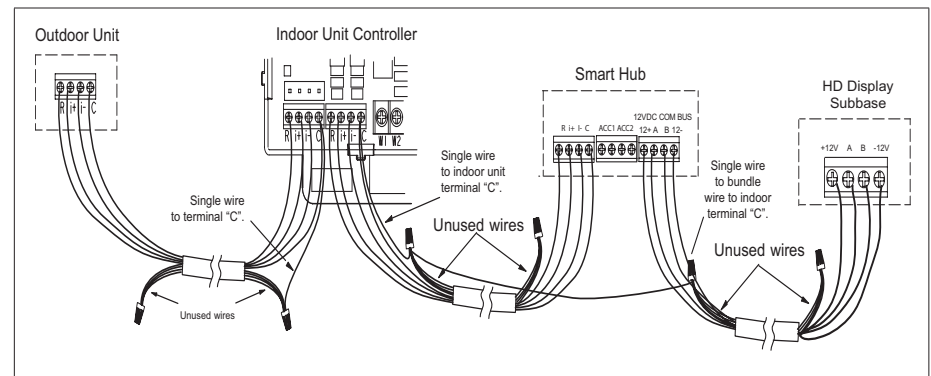

Figure 4. Wire Termination in Communicating Systems (Electrical Noise) - Typical
- Use wire nuts to bundle the unused wires at each end of the cable. A single wire should then be connected to the indoor unit end of the wire bundle and attached to the "C" terminals as shown in "Figure 4. Thermostat Wire Termination in Communicating Systems (Electrical Noise)".